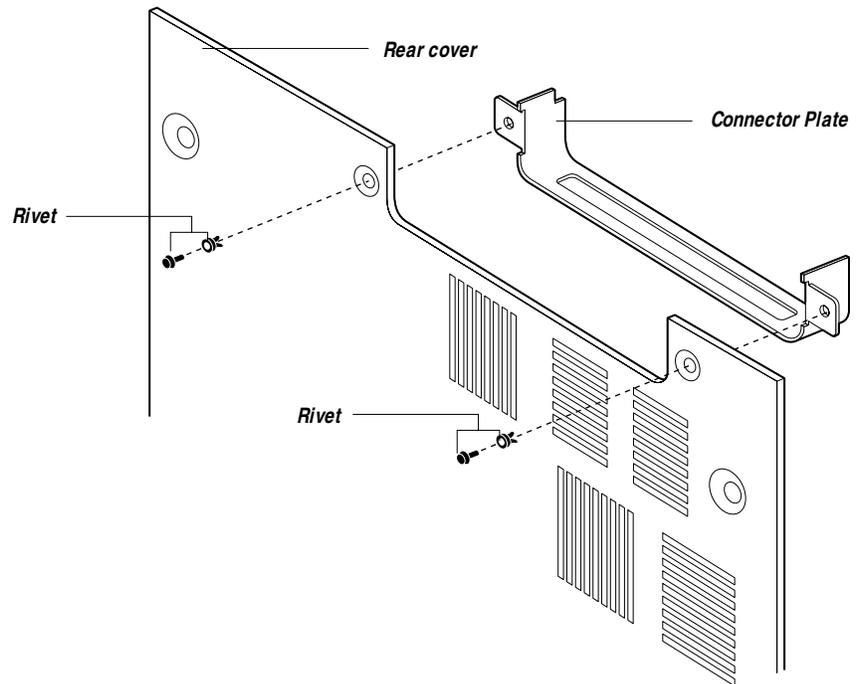

Figure 2-5 Installing the connector plate in the rear cover
2. *Place the connector plate in the empty slot on the inside of the rear cover (see Figure 2-5 on page 2-7).*
3. ***Insert the black rivets into the connector plate to secure it to the rear cover as shown in Figure 2-5.***